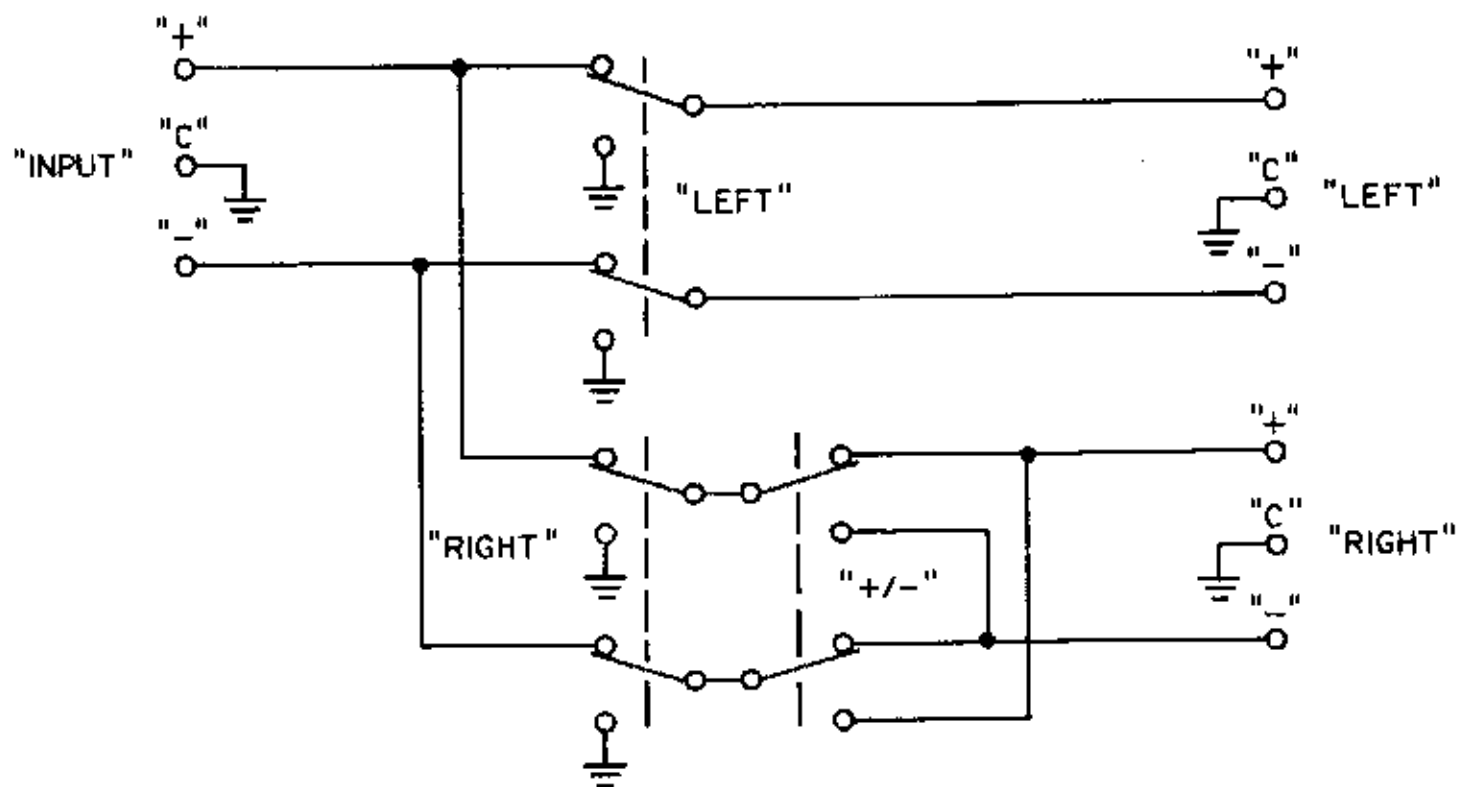

FIGURE 3-1
1. A device for switching the oscillator output to the left and right inputs of the Exciter. While this switching can be done by changing the connections to the Exciter, a switchbox such as that shown schematically in Figure 3-1 greatly eases the system installation.
Provision must be made to apply a test tone to the Exciter's audio inputs, TB2, in four modes: left only, right only, left and right in phase (L=R), and left and right out of phase (L=-R). The switchbox of Figure 3-1 switches the left and right channels on or off, and for L=-R, reverses the polarity of the right channel. Connect the balanced audio oscillator to the switchbox input and the two outputs of the switchbox to the inputs of the Exciter.